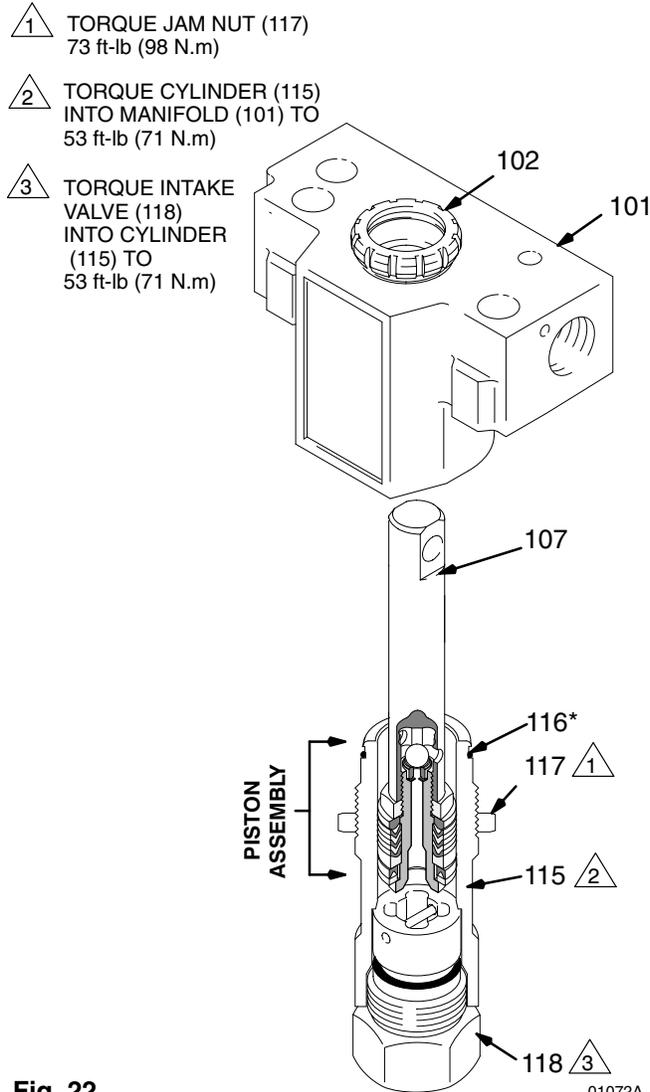

Fig. 22 01072A
11. Place a new o-ring (116*) firmly in the cylinder groove. See Fig. 22.
12. Coat the piston rod and packings with oil. Carefully slide the assembly **INTO THE TOP OF THE CYLINDER (115)**. See Fig. 22.
13. Put the manifold in a vise. Fully thread the jam nut (117) onto the cylinder (115). Guide the rod/cylinder assembly down through the manifold (101). Screw the cylinder (115) into the manifold. See Fig. 22.
14. Place the ball guide (120), stop pin (122) and ball (121*) in the cylinder (115). Screw the intake valve into the cylinder and torque to 53 ft-lb (71 N.m). This will also properly torque the cylinder into the manifold. See Fig. 22.
15. Torque the cylinder jam nut (117) to 73 ft-lb (98 N.m). See Fig. 22.